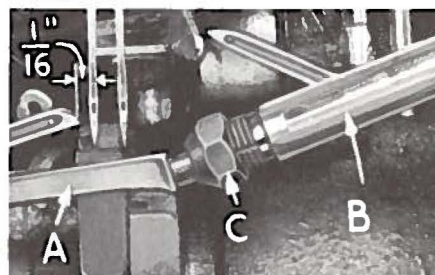

Fig. 6
At this point, insert lower looper (A, Fig. 6) into bar (B). With the lower looper at the left end of its stroke, set point  $1/16$  inch from center of left needle (Fig. 6), using looper gauge No. 21225- $1/16$ .